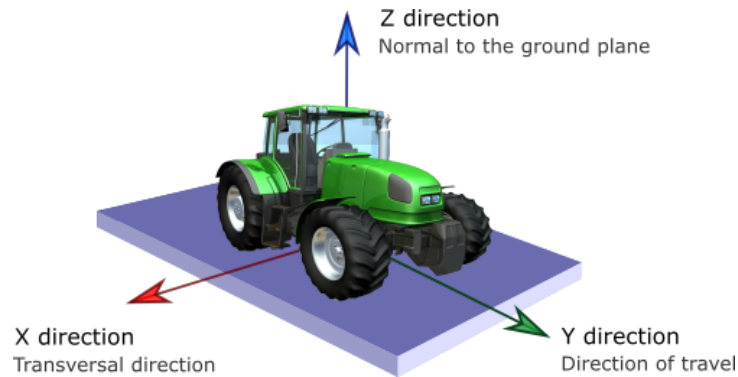

Figure 8. Axis convention.
- **Units and axes convention:** before importing any geometry, you have to set the units of the imported CAD geometry and be aware of the axes convention. You can see a scheme with the reference axes by clicking on the button "Show image" (Figure 8). The Y axis coincides with the direction of travel, Z is normal to the ground plane, and therefore the X axis follows the transversal direction of the field .